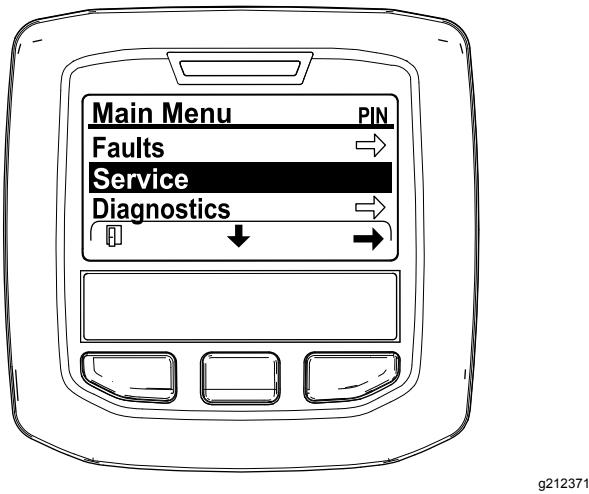

Figure 29
- Navigate to the MAIN MENU, press the center button to scroll down to the SERVICE MENU, and press the right button to select the SERVICE option (Figure 29).